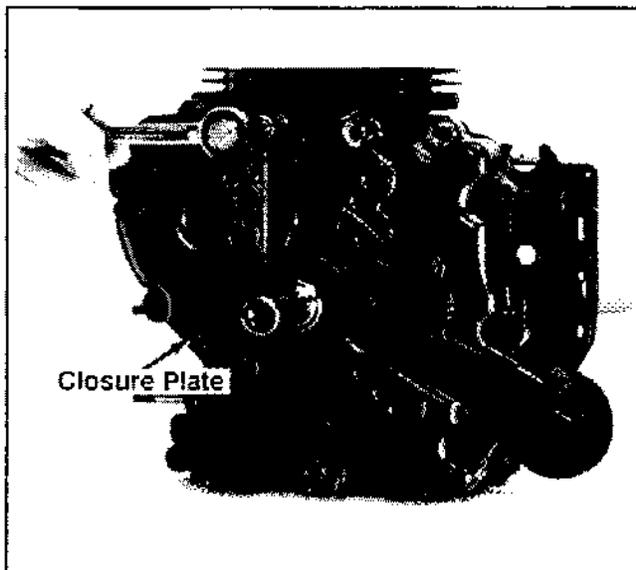

Figure 9-33. Removing Closure Plate.
1. Remove the twelve hex flange screws securing the closure plate to the crankcase. See Figure 9-33.